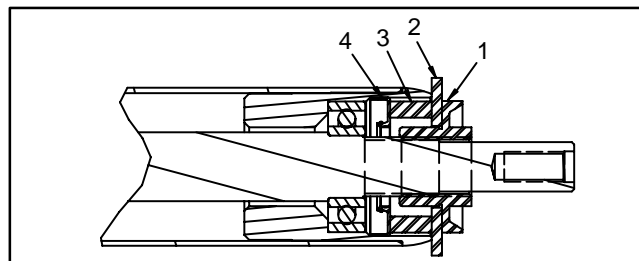

Figure 28
F. Position an assembly spacer and yellow assembly washer (see Special Tools) on each end of roller shaft (Fig. 28). Thread nut onto each end of shaft.